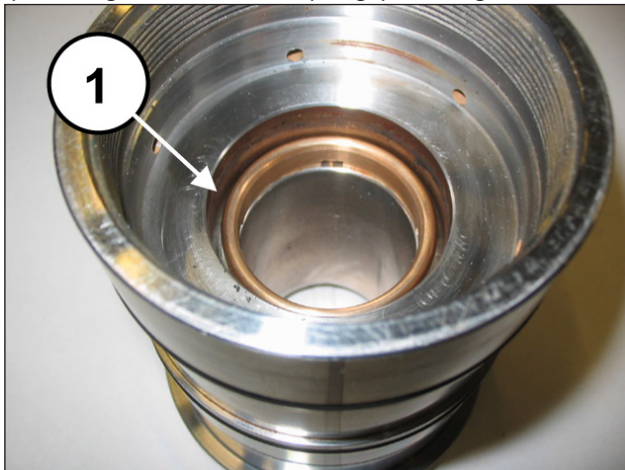

Fig. 150
Install the head ring (pos. ①, Fig. 150), the high pressure seal (pos. ①, Fig. 151) and the restop ring (pos. ①, Fig. 152).